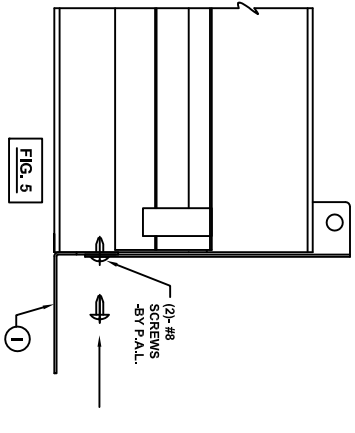

FIG. 5
ATTACH END TRIM (I) TO FIRST AND LAST (END OF ROW) FIXTURES AS SHOWN IN FIG. 5. PLACE TRIMS, VERTICAL FLANGE BETWEEN INSIDE OF END PLATE AND EXTRUSION. SLIDE END PLATE AND JOIN THE (2) SCREW SUPPLIED WITH ASSEMBLY KIT THROUGH HOLES (END PLATE) INTO THE FIRST (END OF ROW) FIXTURE IN ROW OBSERVING MOUNTING INSTRUCTIONS FROM BACK PAGE. DO NOT MAKE FINAL ATTACHMENT OF SAFETY BRACKETS (C) TO GRID AT THIS POINT.